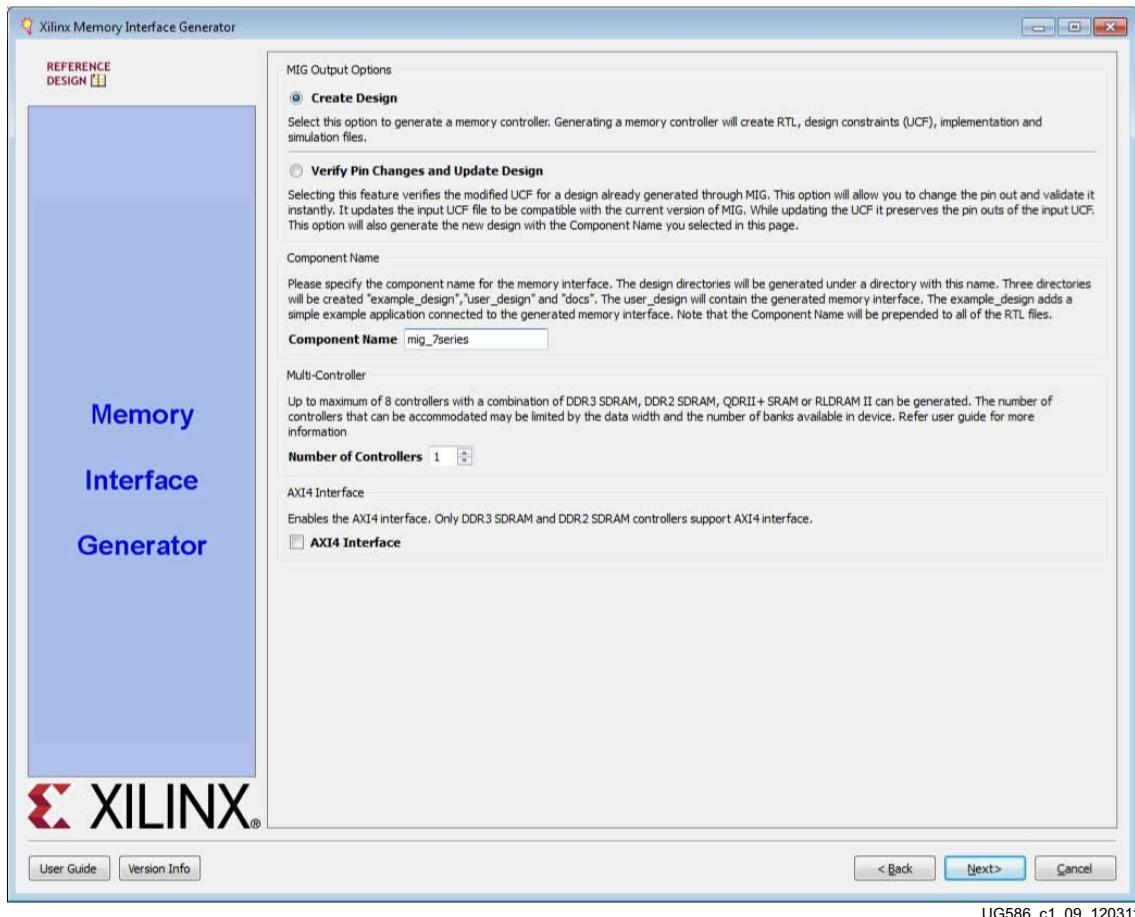

Figure 1-14: MIG Output Options
1. Select the **Create Design** to create a new Memory Controller design. Enter a component name in the **Component Name** field (Figure 1-14).
3. DDR2 and DDR3 SDRAM designs support the memory-mapped AXI4 interface. The AXI4 interface is implemented in Verilog only. If an AXI4 interface is required, select the language as "Verilog" in the Vivado Design Suite before invoking the MIG tool. If the AXI4 interface is not selected, the user interface (UI) is the primary interface.